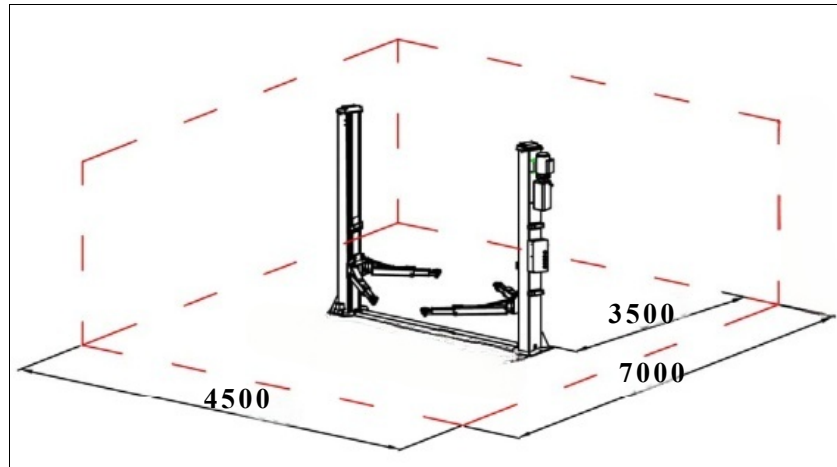

Figure 4 Layout Space
7.1 The equipment shall be installed in a dust-free and pollution-free indoor environment with sufficient illumination (illuminance not less than 100 Lx). The lift columns must be installed at the specified safe distance from walls, columns and other equipment, with a minimum distance of 1000mm from the wall. Sufficient space shall be reserved at the front and rear of the lift to accommodate all vehicles (see Figure 4).